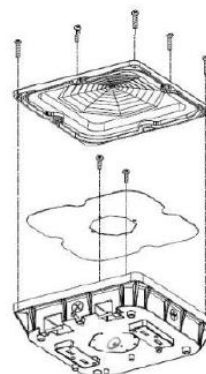

Figure 12
STEP 1. Remove the polycarbonate lens and sheet metal reflector (see Figure 12).
10. Reattach the sheet metal reflector and polycarbonate lens to the luminaire housing (see Figure 12).